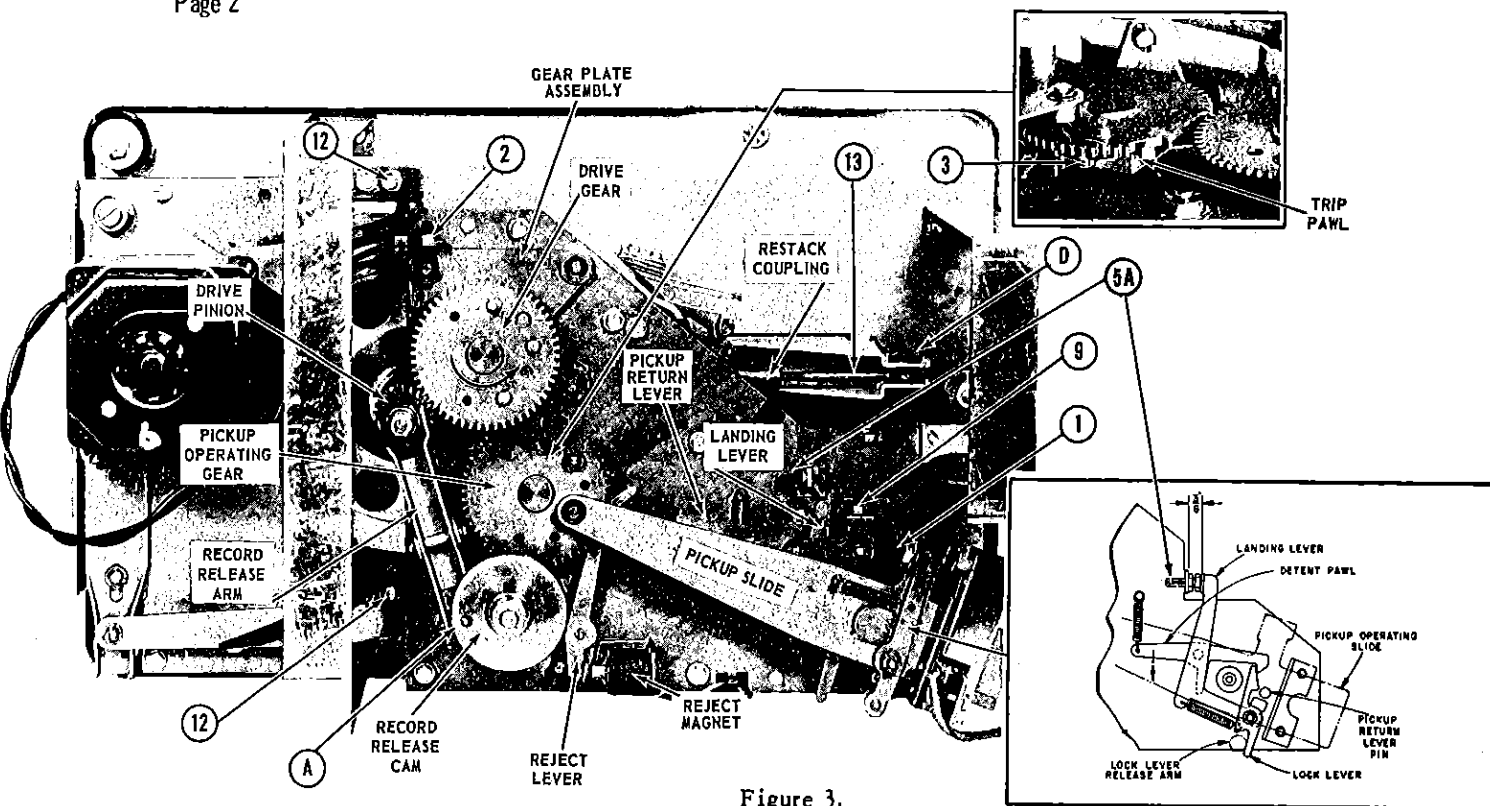

Figure 3.
The adjustments for the Type's BMM-1 and BMM-2 Mechanisms are arranged on the following pages in a sequence that requires a minimum of operations to fully check a mechanism or restore one to operating condition. Each adjustment is numbered and the associated adjusting screw or nut is identified by the same number in *Figures 3, 4 or 5*. Individual adjustments may be made or any sequence may be used if careful attention is given to notes indicating dependent adjustments or assembly requirements.
Bottom Side Play Position – (a) Record release cam positioned with the hole in the cam next to the record release arm roller as shown at A in *Figure 3*; (b) Pickup operating gear out of mesh with drive gear as in *Figure 3*.
No. 1 PICKUP RELEASE (Controls release of pickup rest position lock.) (Figure 3.)
- A. Place the mechanism in the bottom side play position with record release cam as at A in Figure 3.
- B. Preset the Stylus Landing Adjustment Screw (No. 5A) for $\frac{3}{8}$ inch clearance between the landing lever and the adjustment screw bracket, see detail, Figure 3.
- C. Move pickup to trip off position and adjust No. 1 adjustment screw so the lock lever is engaged by the detent pawl. See detail, Figure 3.
No. 2 DRIVE GEAR MESH (Establishes gear teeth clearance.) (Figure 3.)
No. 3 TRIP PAWL LIMIT (Adjusts pickup operating gear engagement.) (*Figure 3.*)